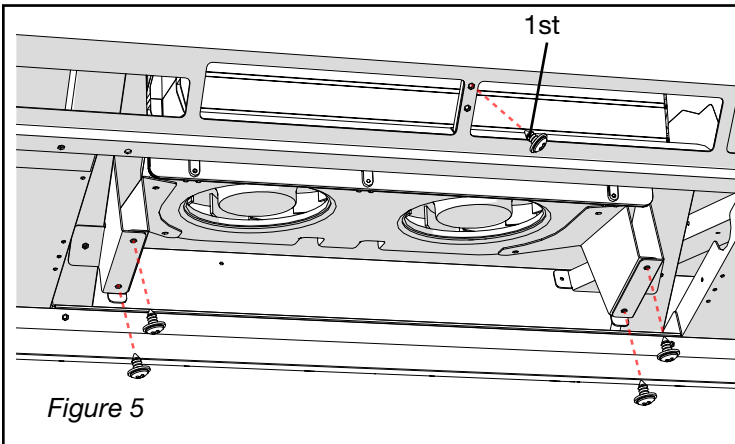

Figure 5
4. Remove the 5 screws holding the defective heater, starting with the one on the front grill. (Figure 5)